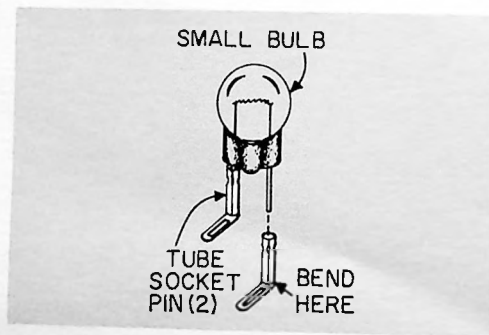

FIGURE 23. SMALL BULB
- I-1, one of the small bulbs and two tube socket pins. Place a socket pin over each lead of the bulb as shown in Figure 23.
- I-2, the other small bulb and two tube socket pins. Assemble as shown in Figure 23.